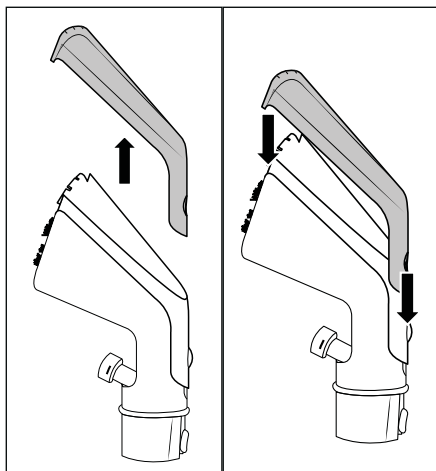

Fig. 9
- ◆ Press the locking button 24 on the cleaning attachment cover 23 of the upholstery nozzle 22 and pull off the cleaning attachment cover 23 (see Fig. 9).
- ◆ Place the cleaning attachment cover **23** on the upholstery nozzle **22** and push it down until the locking button **24** engages in the upholstery nozzle **22** (see Fig. 9).